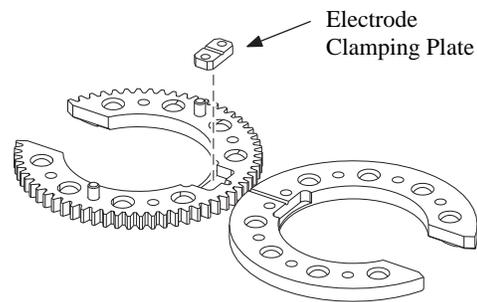

Figure 35 Removing the Electrode Clamping Plate
9. Remove the electrode clamping plate. Clean it with a fine-grit abrasive pad. See Figure 35.